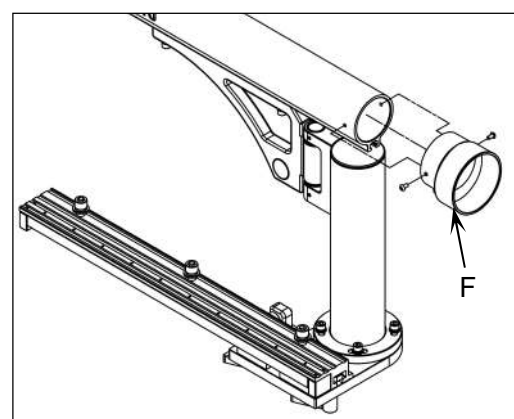

Fig. 9
2. As shown in **Fig. 9**, install the 4" (100 mm) hose connector (**F**).